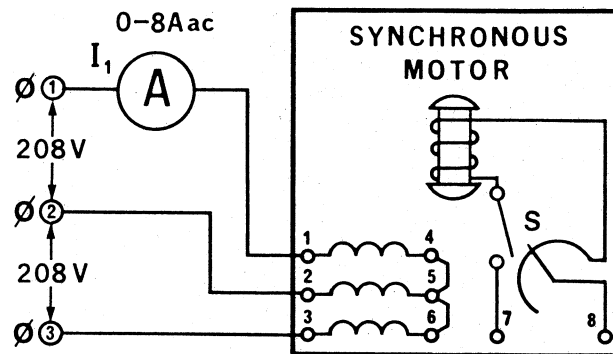

Figure 7-1.
4. Using your Three-Phase Synchronous Motor/Generator, Power Supply and AC Ammeter, connect the circuit shown in Figure 7-1. Note that the three stator windings are wye-connected to the fixed 208 V 3 ϕ output of the power supply, terminals 1, 2 and 3.